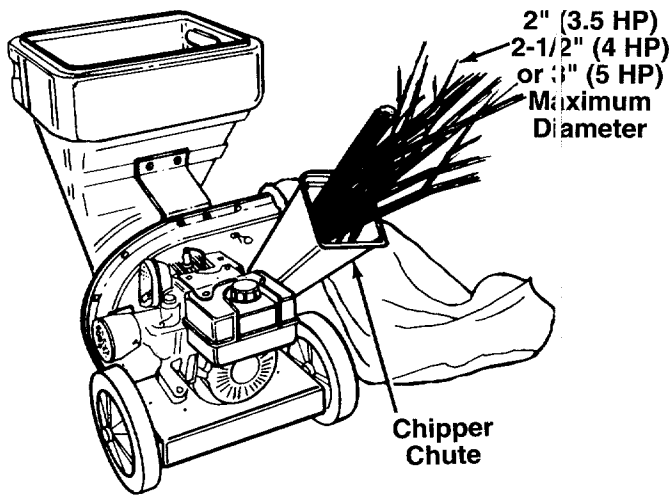

FIGURE 5.
- Bulky material, such as stalks or heavy branches, up to the diameter listed in the chart below should be fed into the chipper chute. See figure 5.